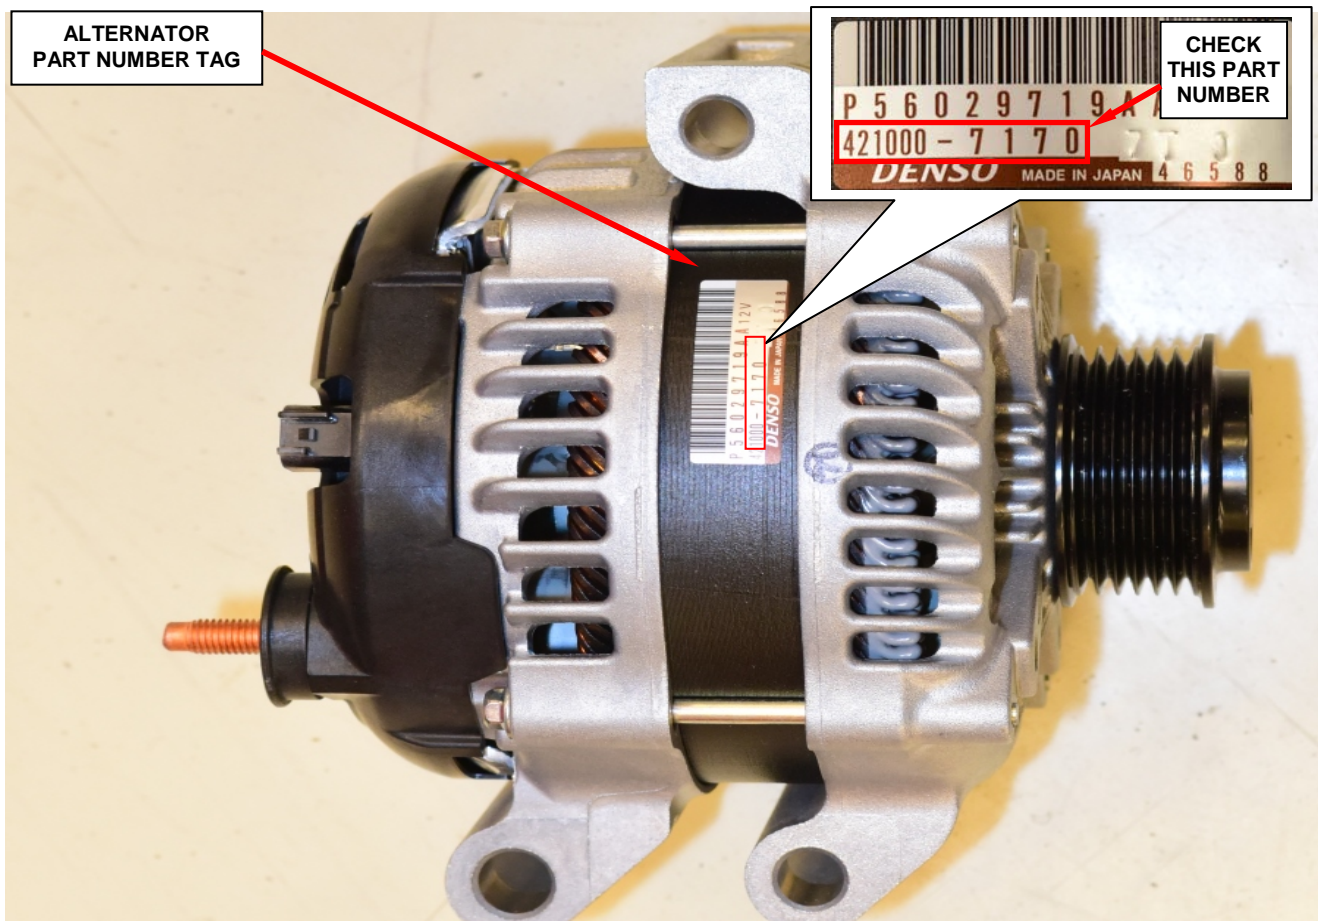

Figure 1 – Alternator Part Number (LD Models)
2. Use the following procedure for **all LD models** to inspect the part number tag on the alternator (Figure 1):